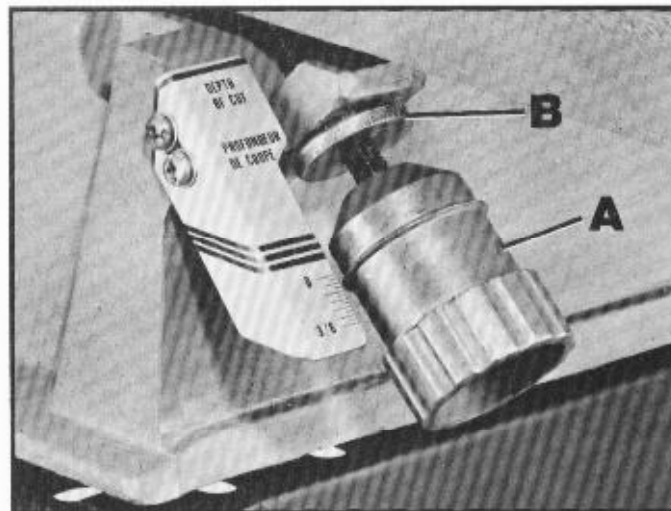

Fig. 17
2. Loosen the lock knob (B) Fig. 17, and lower the infeed table by turning the adjustment knob (A), counterclockwise and swing the cutterhead guard out of the way.